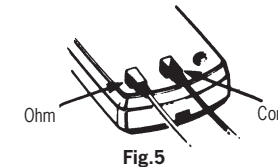

Fig.5
- (1) Test the circuit to make sure it is de-energized. Refer to section 4.3 on how to test for voltage.
- (2) Set the range switch to the ohm range position. Insert the red test lead into the "OHM" terminal and black test lead into the "COM" terminal (Fig.5).